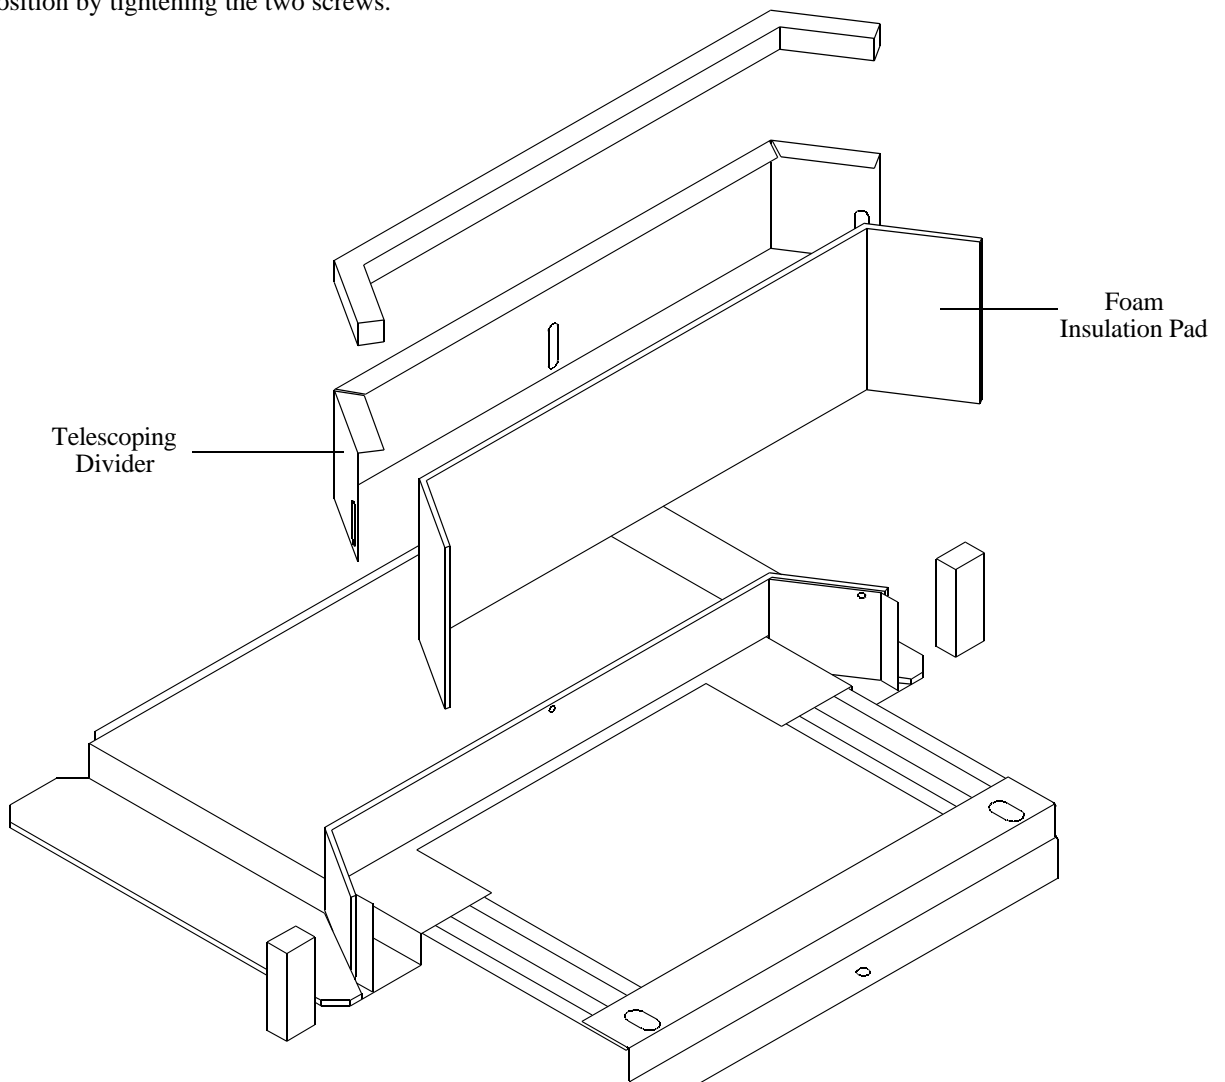

FIGURE 6
1. Locate foam topped, three-sided, telescoping divider plate, reference Figure 6. Insert telescoping divider plate between the back of the ceiling plenum electrical box and the vertical insulated divider directly behind it. Attach the telescoping divider plate with 2 sheet metal screws provided in the parts package. Leave the screws slightly loose for adjustment purposes.